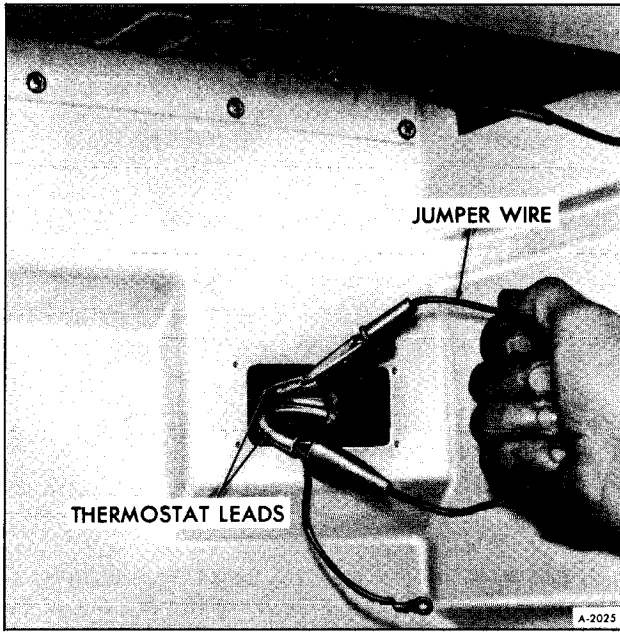

Figure 4-Jumper Wire at Thermostat
*Another method is,* to remove thermostat assembly from inside cabinet and connect a jumper wire between the two lead wires as shown in Figure 4. If the compressor begins to run replace the thermostat.